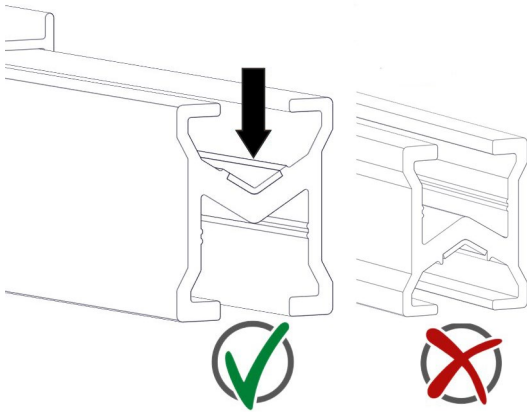

Fig. 44: Note the sawing direction for the conductor bar
- If the conductor bar is sawed, the cutting direction must be kept from top to bottom (see Fig. 44).